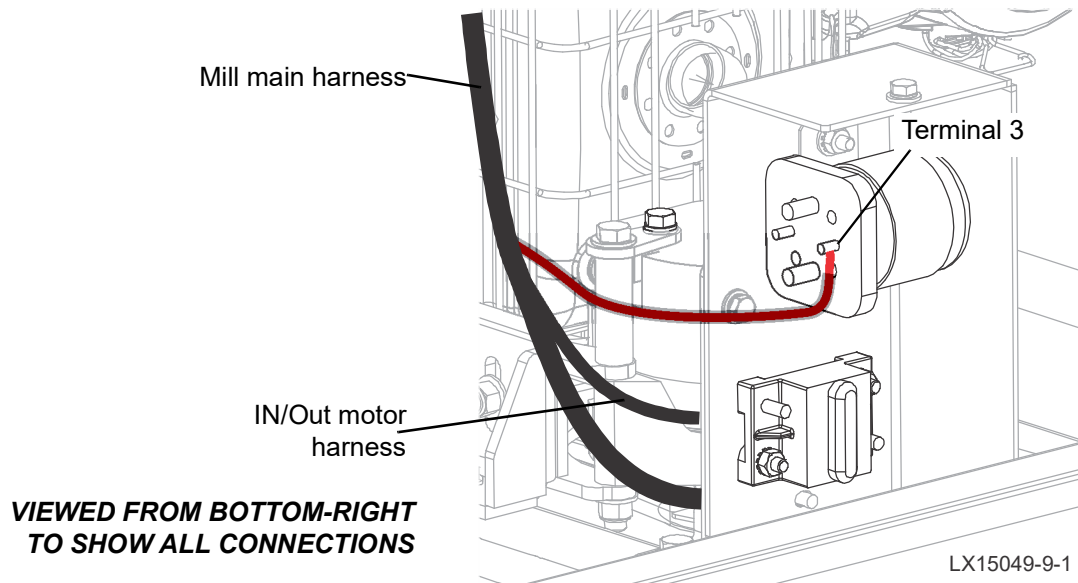

FIG. 1-10
3. From the mill's main wiring harness (located for step 6), place the remaining wire (201) on solenoid terminal 3. (See Fig. 1-10.)